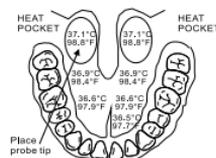

Figure 2
**Oral Use:** Place the probe well under the patient's tongue (Figure 2).